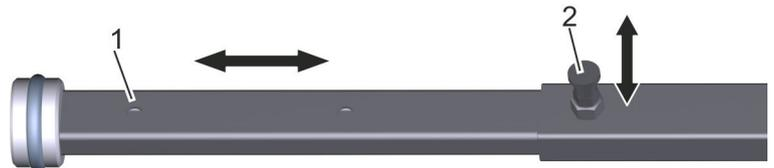

Fig. 27: Extending the reaction arm
- 11.▶ Plug the bottom part of the reaction arm into the middle part. To do so, pull the locking bolt (Fig. 27/2), push the bottom part into the middle part as far as you wish, and let the locking bolt (Fig. 27/2) lock into place in one of the four lock-in holes (Fig. 27/1).